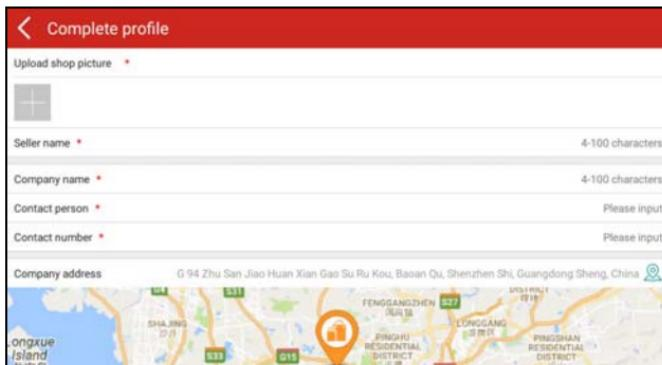

Fig. 8-2
A. If you had no golo business manager account, tap "Join" to enter a screen similar to Fig. 8-2: